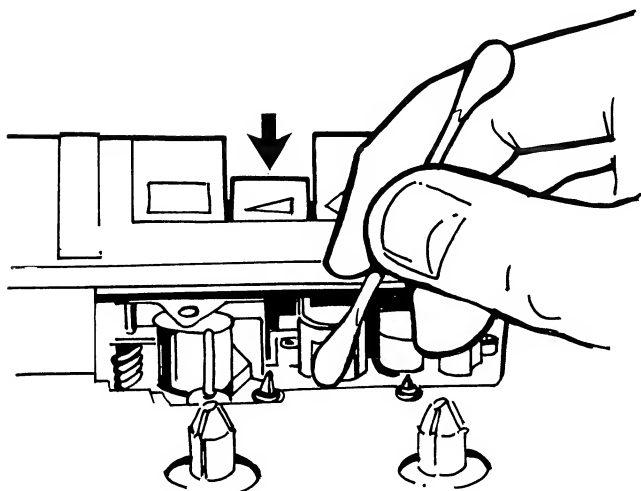

Fig. 7 Cleaning the recording head
- (A) The head assembly, the capstan and the pressure roller are always in contact with the tape during operation. Therefore, they tend to get dirty very easily and this has an adverse effect on the recording quality and the volume. Occasional cleaning is necessary.
- (B) To clean the head assembly, remove the cassette and press the playback button. The head assembly then becomes accessible. Use a cotton swab dipped in denatured alcohol or head cleaning fluid to clean the assembly area gently (see figure 7).